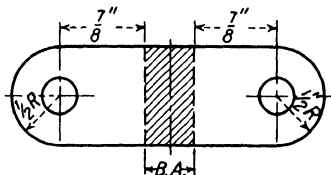

Fig. 257.—1/8-in. H.C. steel bent 90°, 1/4 in. radius of bend.
6. What is the over-all length of the fitting in Fig. 257?